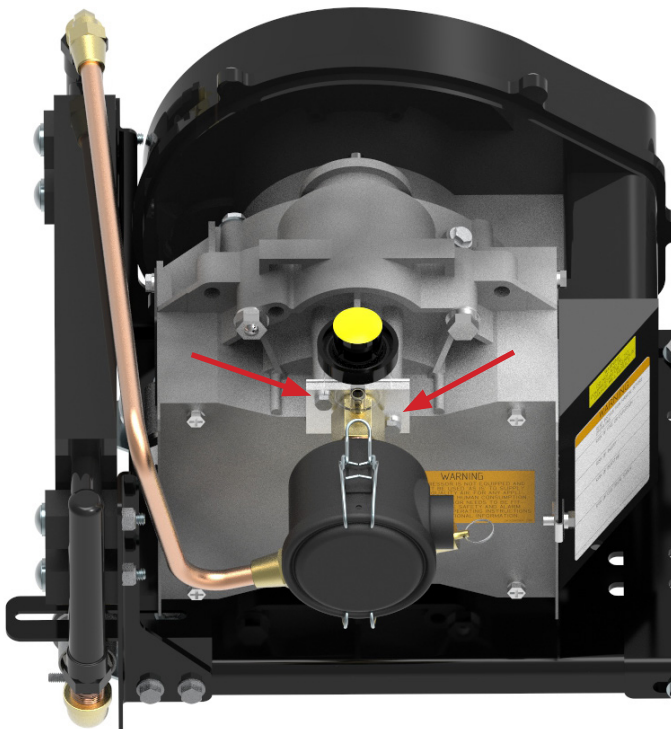

Figure 67
2. Remove the inlet filter and filter adapter plate by removing the two M6 bolts shown in Figure 67. On some models, a T27 pin-in-torx bit will be required to remove these bolts.